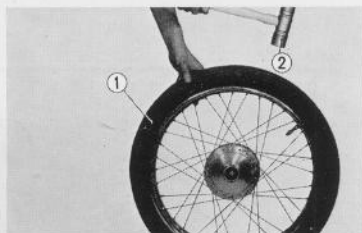

Fig. 4.91 Seating tube
- a. After the tire is assembled on the rim, inflate the tire to 1/3 the normal pressure  $1.6 \sim 1.8 \text{ kg/cm}^2$  ( $22.8 \sim 25.6 \text{ lbs/in}^2$ ) and then tap the tire lightly over the entire circumference to relieve any pinching of the tube. (Fig. 4.91)